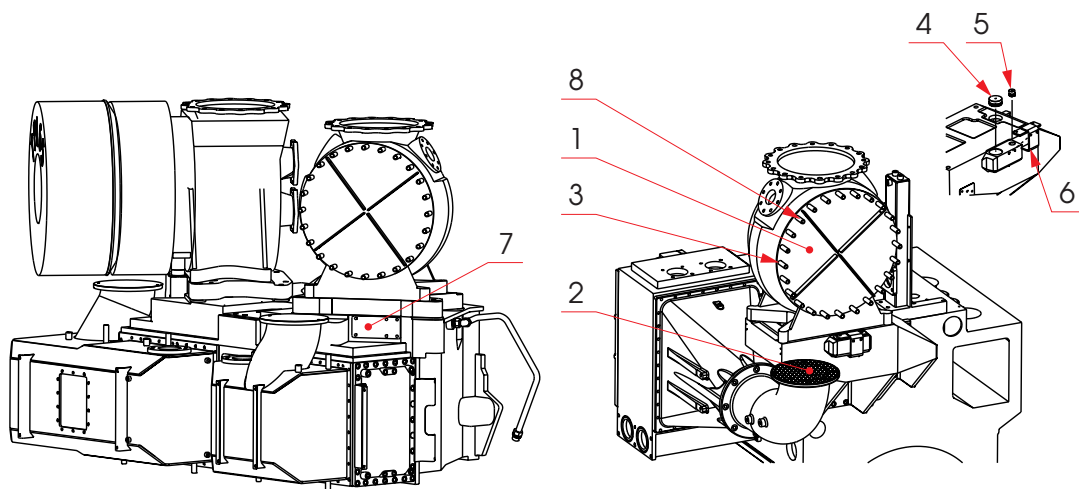

Fig 15-4
- 3 Mount the screen plate(s) (2)** on the flange connection of the air cooler housing, see Fig 15-4.
- 7 Mount the lifting equipment** and open the nuts (8). Remove the compressor casing.